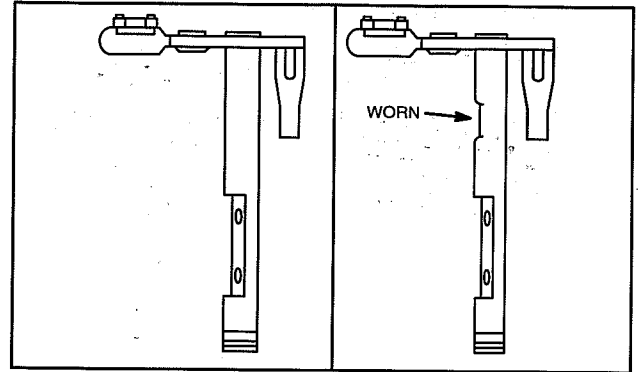

Fig. 16 – Checking Throttle And Choke Shaft
2. Inspect throttle shaft and choke shaft for wear. Replace if worn, Fig. 16. If carburetor body is worn, replace carburetor.